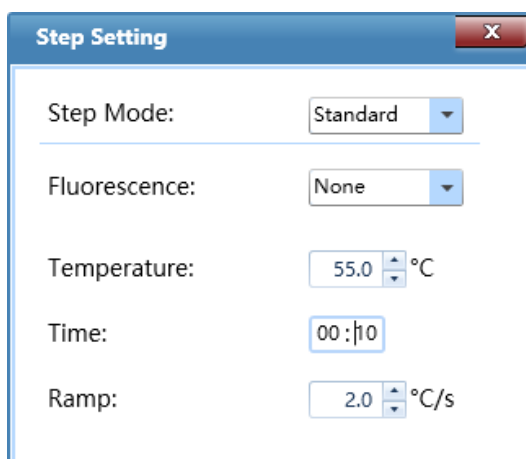

Figure D-5.6a. Step Setting Dialog Box – Standard Step Mode
5. **Step Setting**: double click any step in the step list or in temperature program area to edit the selected step, the application software will pop up the **Step Setting** dialog box for user to edit the selected step, as shown in figure D-5.6a.
I. **Standard Step Mode:** user can set the **Temperature, Time, Ramp** for the standard step and decide whether to read its **Fluorescence**, as shown in figure D-5.6a.